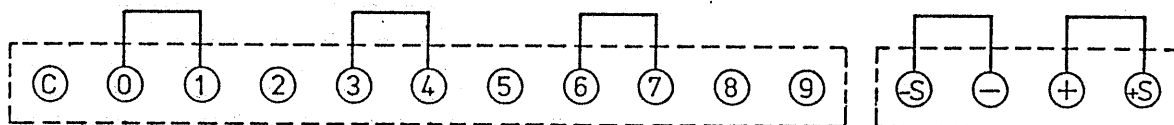

Figure 2-2
- o Make it sure that the jumpers of the terminal blocks on the rear panel are securely connected as shown in Figure 2-2.